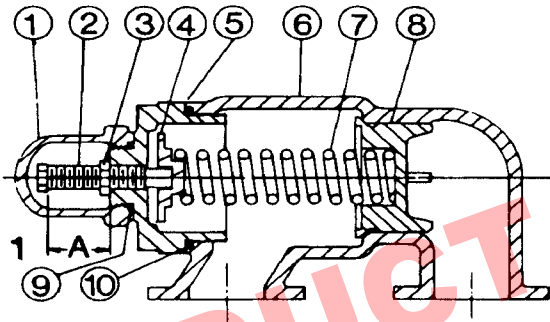

FIGURE 21
2. Measure and record length of extension of adjusting screw. Refer to “A” on Figure 21.